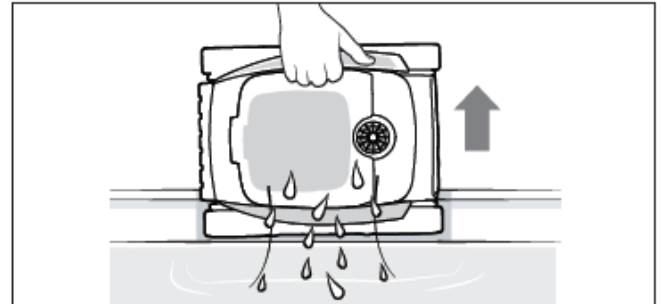

Figure 10. Drain the Cleaner
2. Pull up the cleaner by the handle and hold vertically to let the water drain into the pool. (FIGURE 10)